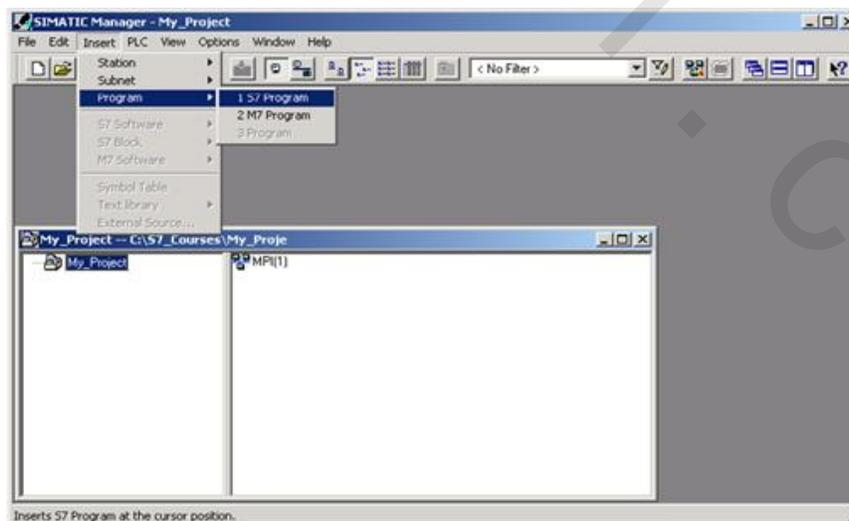

Figure 5-17 Inserting S7 program
To insert a S7 project you should: Select the *Insert -> Program -> S7 Program* menu to insert a new program into the current project as shown in Figure 5-17. When you insert an object, the system automatically gives it a relevant name, such as "S7 Program (1)". You can then change this name if you like.